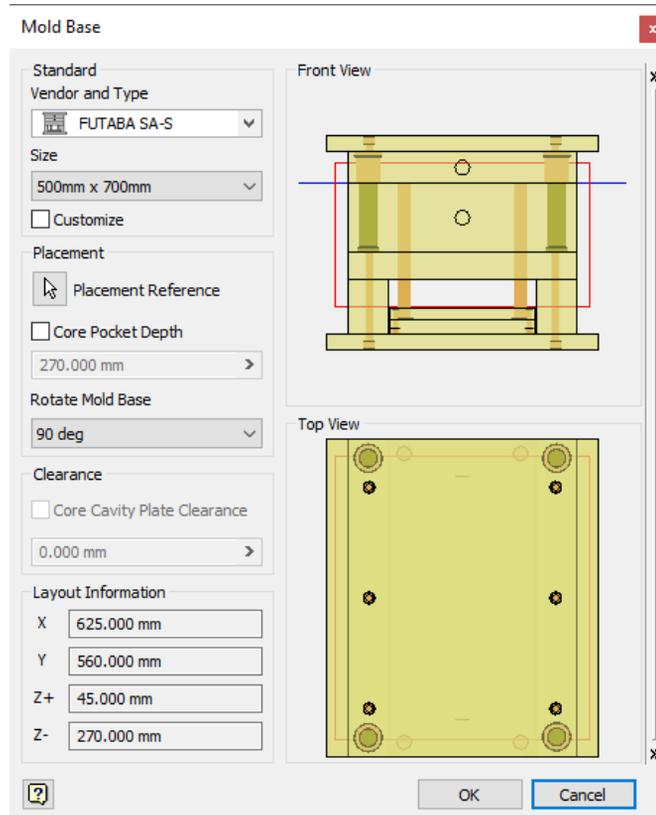

Figure 19-63 The Mold Base dialog box
1. Choose the **Mold Base** tool from the **Mold Assembly** panel in the **Mold Assembly** tab of the **Ribbon**; the **Mold Base** dialog box is displayed, as shown in Figure 19-63.